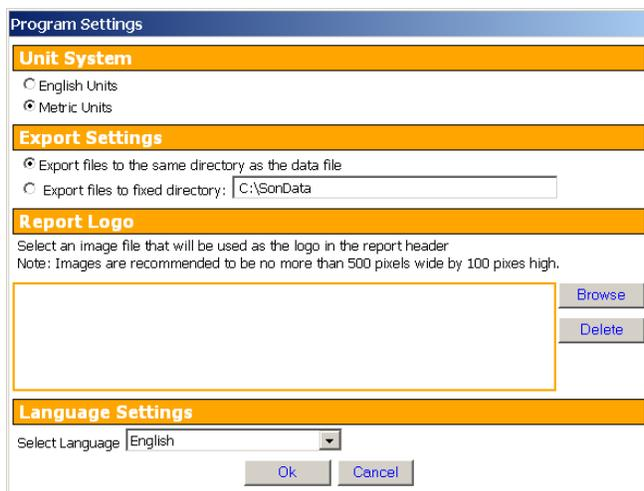

Figure 11 – FlowExporter Options Window
- Click **Program Settings** to specify the output units system, language settings, and (if desired) a fixed output directory for all ASCII output files (Figure 11). Click **OK** when done.
- Specify a different output directory for the ASCII files (if desired) using the **Browse** button in the **Export Settings** section (Figure 11).